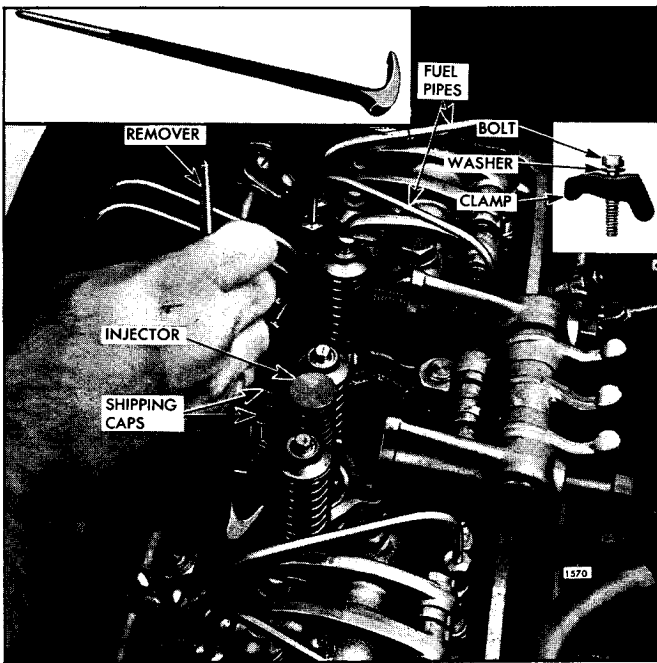

Fig. 2 - Removing Injector from Cylinder Head
- a. Disconnect and remove the fuel pipes from the injector and fuel connector, see Fig. 2.
- e. Free the injector from its seat with the remover (Fig. 2) and lift it from the cylinder head; at the same time disengage the injector control rack.